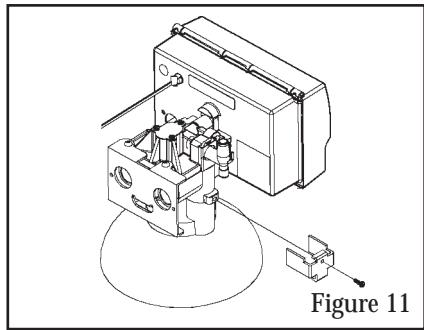

Figure 11
3. Remove the two u-clamps and screws from the parts pack. Install the clamps on both sides of the control as indicated in Figure 11 and secure them with the screws.